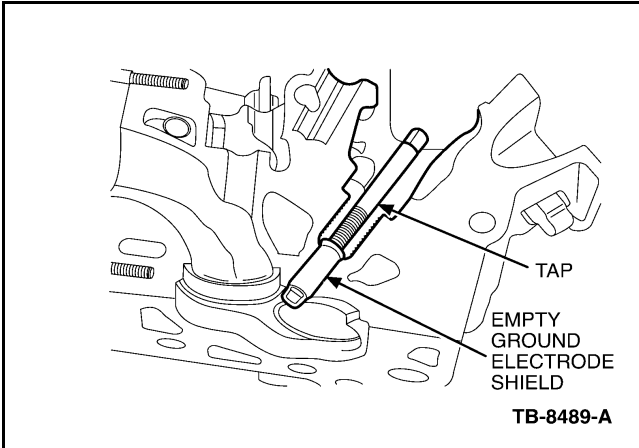

Figure 1 - Article 06-15-2
**Mode 1:** The ground electrode shield is left behind as an empty shell (Figure 1).